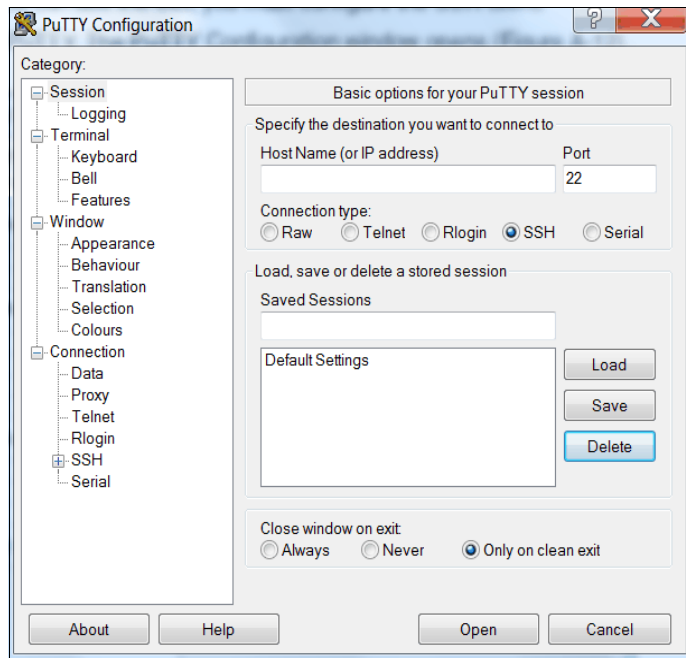

Figure A-13 PuTTY
1. Start PuTTY. The PuTTY Configuration window opens (see Figure A-13).